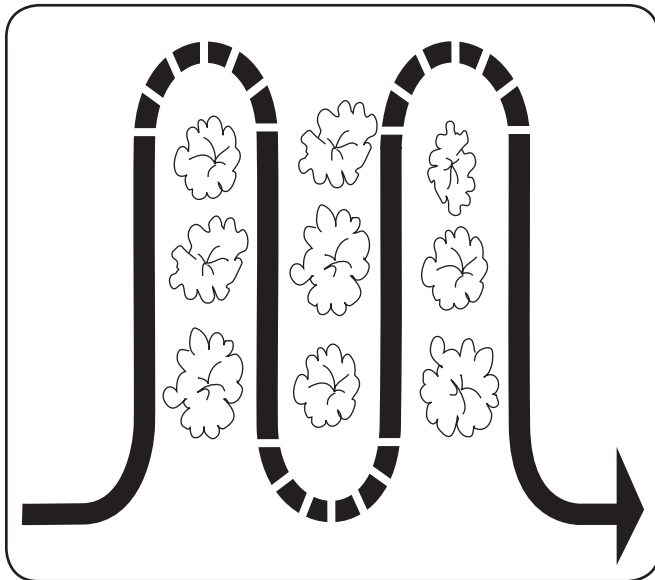

Figure 5-4
- When cultivating (breaking up the surface soil around the plants to destroy weeds, see Figure 5-4), adjust the tines to dig only 1” to 2” deep. Using the shallow tilling depth helps prevent injury to the plants whose roots often grow close to the surface. If needed, lift up on the handlebars slightly to prevent the tines from digging too deeply. (Cultivating on a regular basis not only eliminates weeds, it also loosens and aerates the soil for better moisture absorption and faster plant growth.) Watering the garden area a few days prior to tilling will make tilling easier, as will letting the newly worked soil set for a day or two before making a final, deep tilling pass.